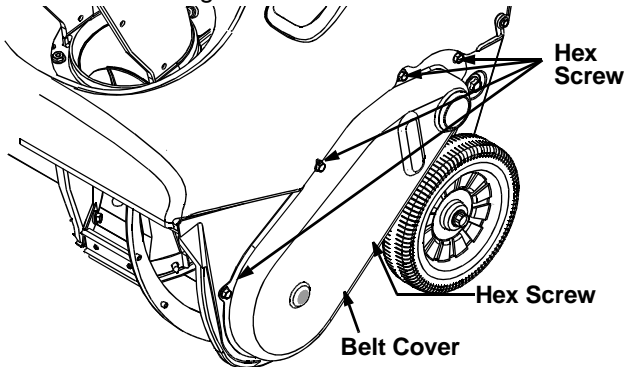

Figure 8
- Remove the belt cover by removing five hex screws. See Figure 8.